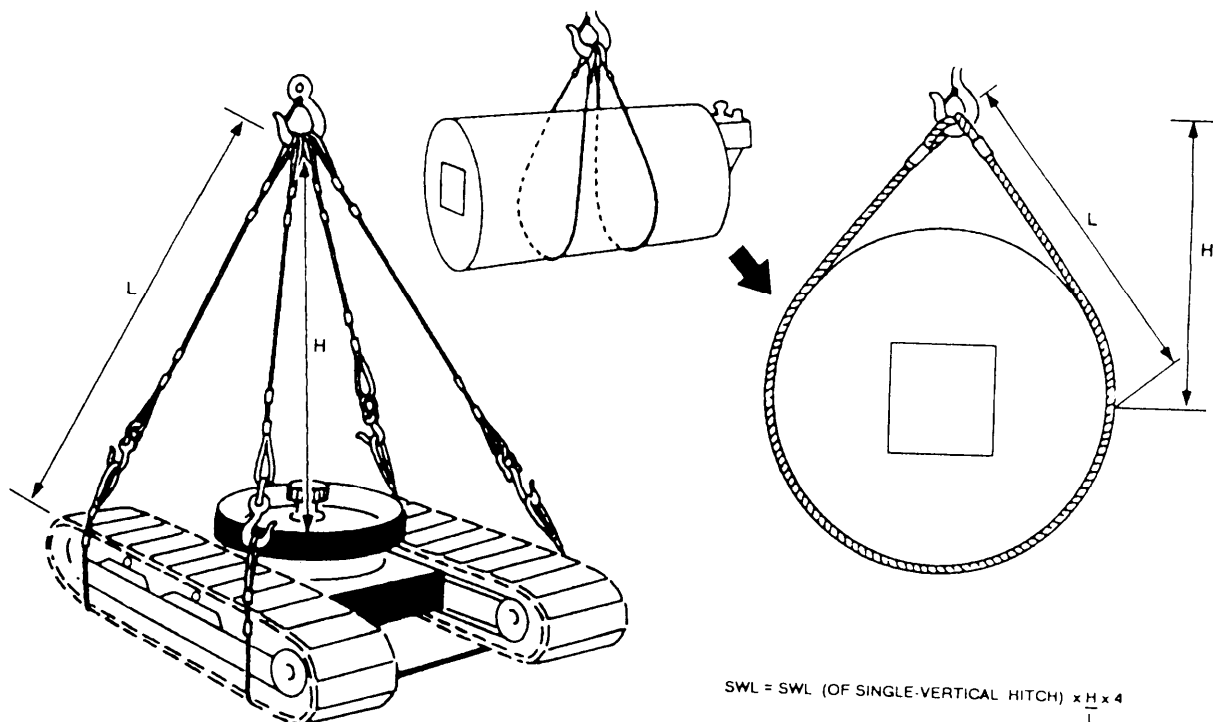

Figure 13-38.—Determination of double-basket hitch sling capacity.
**Double-basket hitch** (fig. 13-38): For vertical legs, SWL = SWL (of single-vertical hitch) x 4.